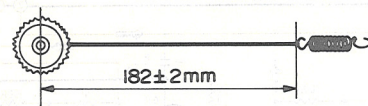

Fig. 4
2. Adjust the length of the dial cord to 182±2mm from the center of the middle gear to the knot on the spring (see Fig. 4).